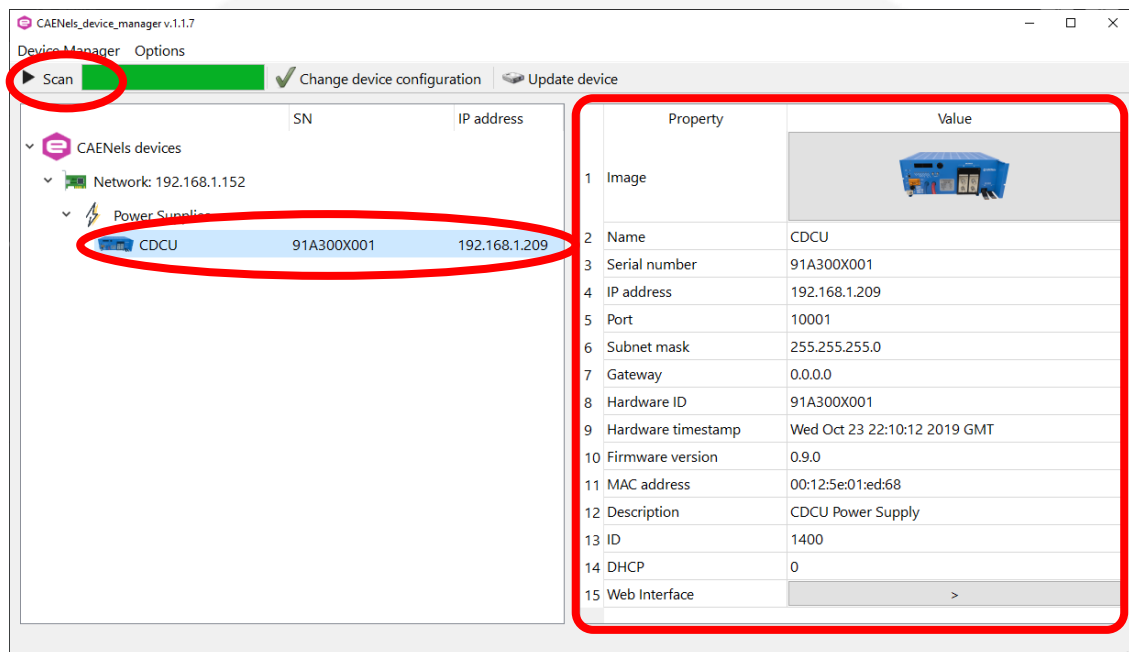

Figure 1: Device Manager - Main interface
- Perform a scan to discover the connected device(s) – e.g. CDCU – by clicking the “Scan” button as indicated in **Figure 1**. If multiple network connections are available, it is possible to select the network(s) to be scanned in the “Selected network interfaces” window available under the “Options” menu. All the information about the selected devices are shown on the right side of the main window.